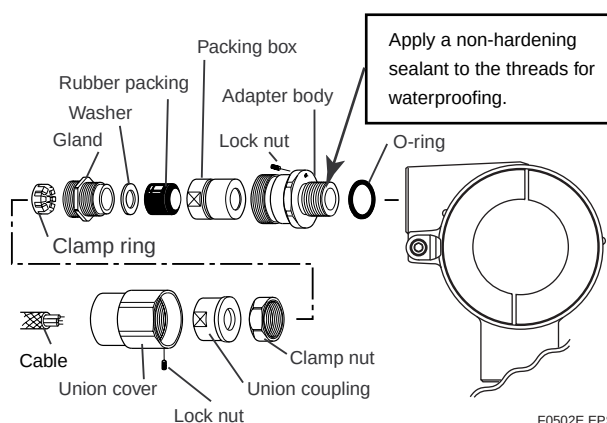

Figure 5.2 Installing Flameproof Packing Adapter
■ Mounting flameproof packing adapter body to conduit connection (see Figure 5.2)